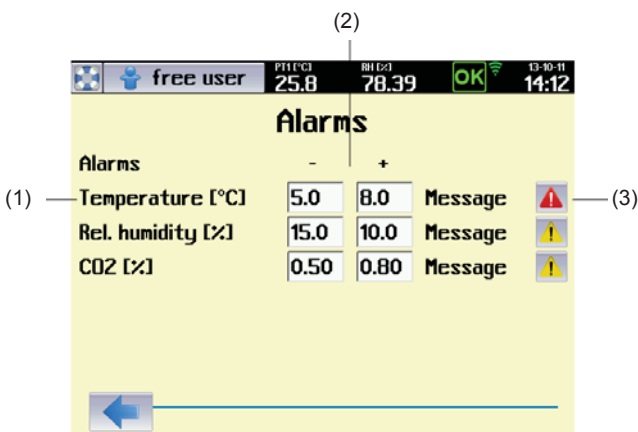

Fig. 58
- (1) Required exposition conditions.
(2) Light exposition for individual racks.
Alarms warn the user that one of the regulated variables has moved outside the pre-set limits. The temperature, relative humidity and CO₂ concentration can be monitored (CO₂ is an optional device accessory, see 6.14). How the device acts when the alarm is triggered depends on the settings for the button (3), fig 58, and is the same as when a warning or error occurs (see 8.3.3).